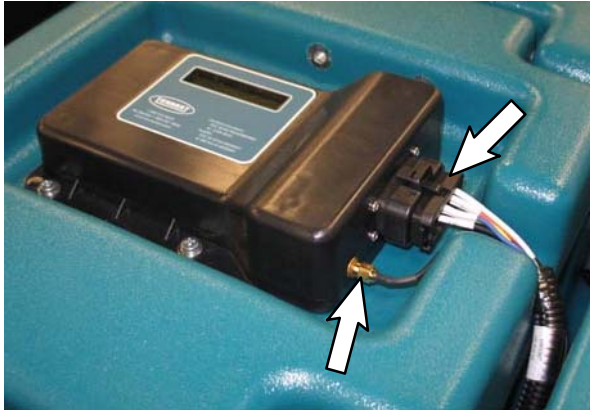

FIG. 1
1. Disconnect the telemetry harness and antenna cable from the existing telemetry module. (Fig. 1)
4. Use saved hardware to install the new telemetry module (1) onto the machine.
5. Connect the telemetry harness and antenna cable to the telemetry module (1). (Fig. 1)